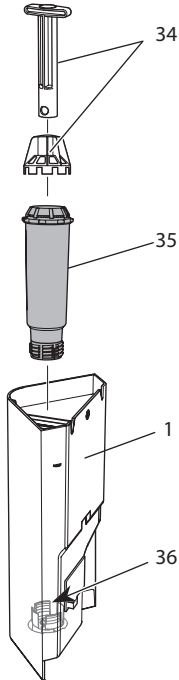

Fig. 19: *Screwing/Unscrewing the water filter*
7. Insert a new filter in the water tank (see *Fig. 19*).
2. Remove the water filter (see *Fig. 19*).